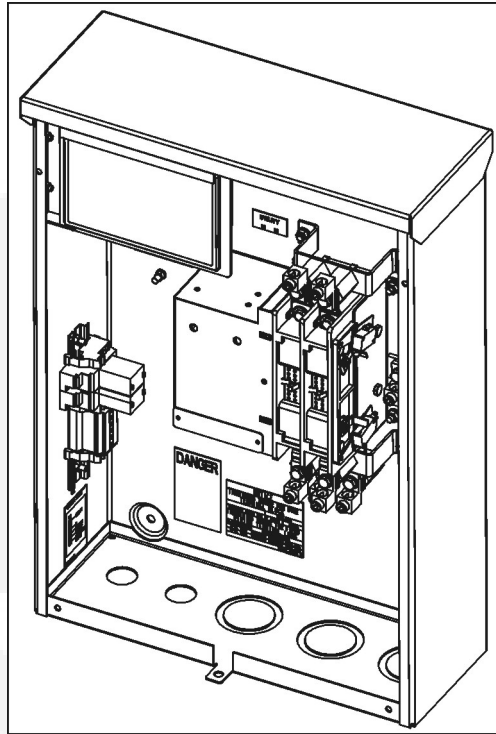

FIGURE 2. RSS TRANSFER SWITCH WITH CONTROLLER (DOOR PANEL REMOVED)
- Section 7.3 provides information on how to troubleshoot transfer switches that include a controller, see Figure 2.